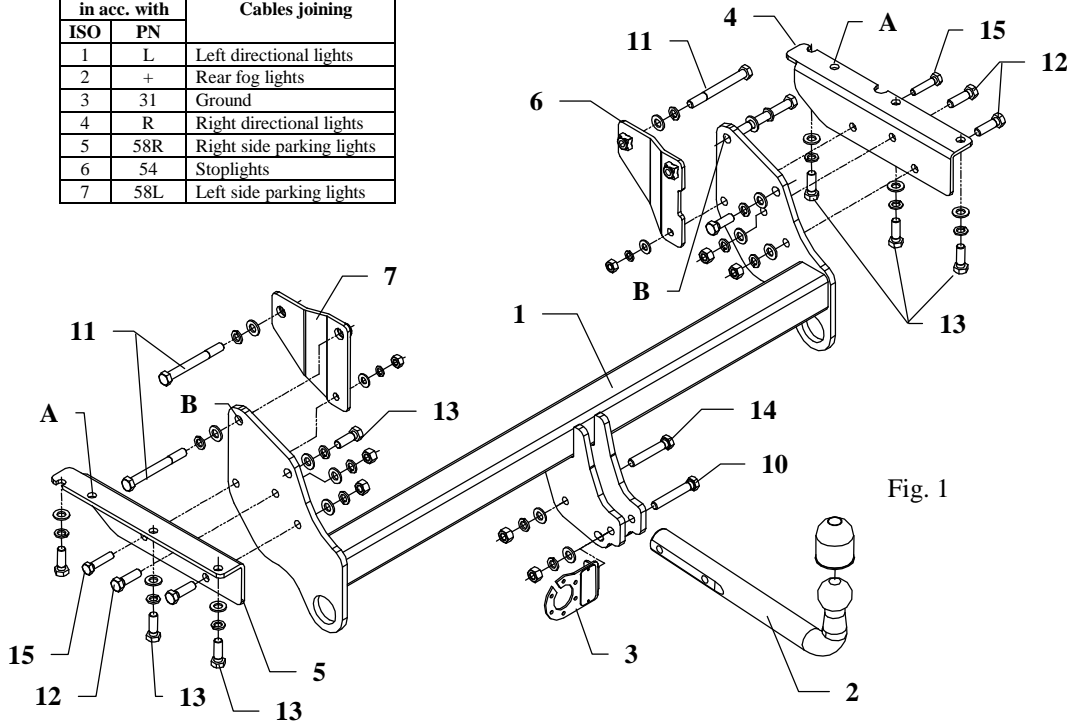

Fig. 1
3. Put angle bar (pos. 4 and 5) below the car to chassis members in this way so holes in angle bar agree with holes in members and fix by bolts M12x1,25x35mm (pos. 13), see fig.1. **NOTE!** In short version the last bolt fix through hole A of angle bar.
4. Between mounted angle bar put main bar of the towing hitch (pos. 1) and fix by bolts M12x40mm (pos. 12) and:
- **long body version** – put bend fish-plates (pos. 6 and 7) and fix all using bolts M12x110mm (pos. 11) and M10x45mm (pos. 15)
- **short body version**- through holes B fix main bar to the chassis members by bolts M12x110mm (one each side, bend fish-plates pos. 6 and 7 not used)
5. Fix tow ball (pos. 2) using bolt M12x75mm (pos. 10) and M12x70mm (pos. 14). With bolt M12x75mm fix also a socket plate (pos. 3). See figure 1.